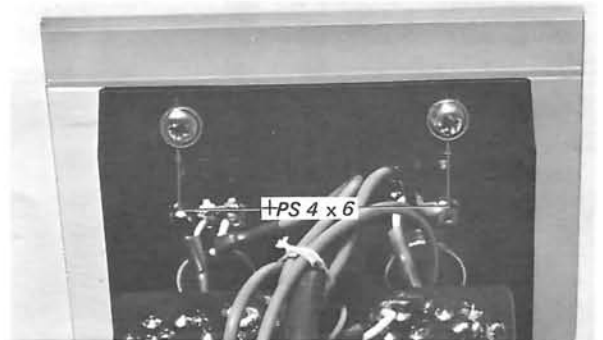

Fig. 2-2 Front panel removal
3. Remove the two screws (+PS 4 X 6) securing the front panel from the back of the front subchassis as shown in Fig. 2-2.